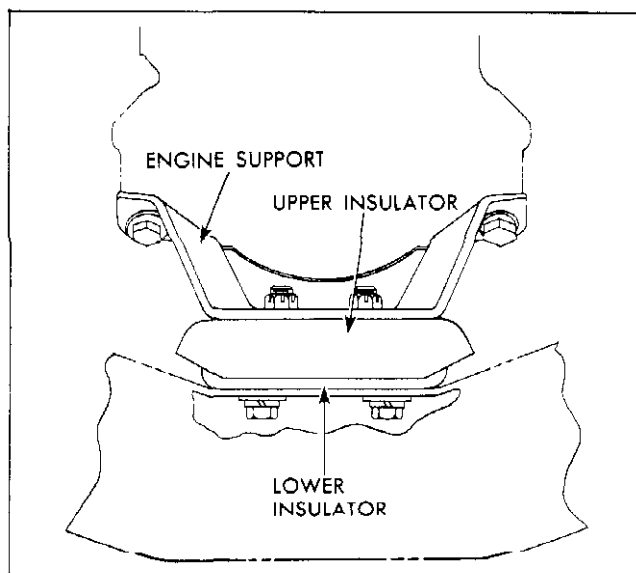

Fig. 6-23 Engine Front Insulator Mounting
2. Remove screws fastening engine support to timing chain cover (Fig. 6-23).
12. Remove screws and lockwashers which fasten front engine support to timing chain cover (Fig. 6-23).